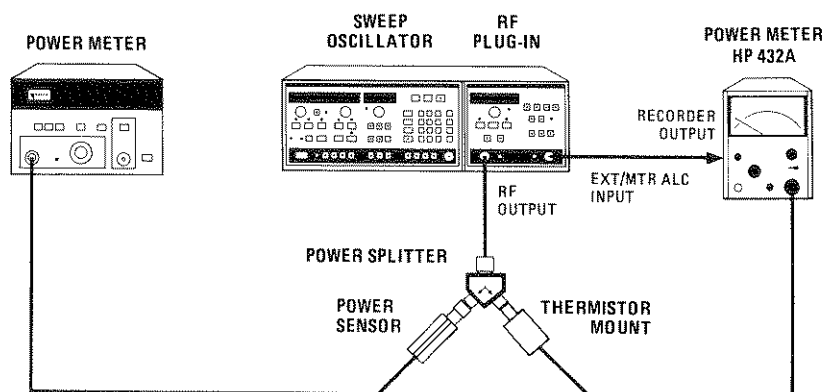

Figure 5-32. Power Meter Leveling Calibration
1. Connect equipment as shown in Figure 5-32. Press **CW** and select a frequency at midband. Set the RF power level to -2 dBm, as indicated on the plug-in Front Panel display. Select the 0 dB range on the HP 432A Power Meter. Both meters should read approximately -8 dBm. Note the insertion loss through the Power Splitter.